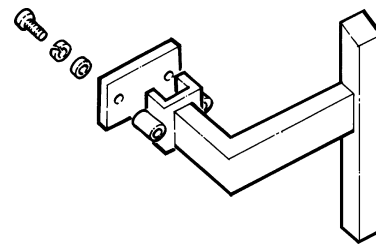

Fig.6-5 Lower striker plate
5. Check that the lower striker plate is mounted. See fig.6-5.